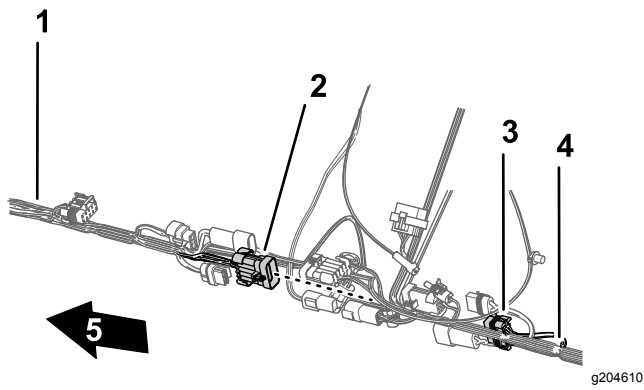

Figure 91
6. Connect the 10-pin connector of the front harness for the sprayer-harness interconnect into the 10-socket connector of the rear harness for the sprayer-harness interconnect (Figure 91).